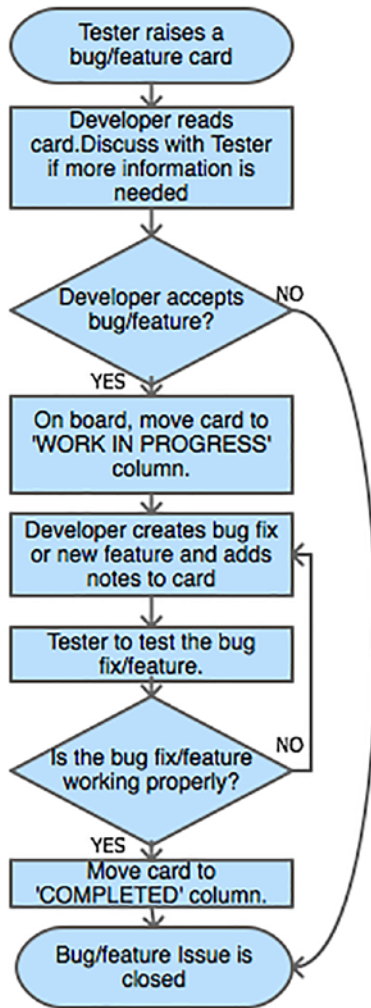

Figure 6-2. Bugfix/feature workflow
- Then the developer needs to work on fixing the bug or adding the feature. Before moving the card to the COMPLETED column, it must be tested by the tester. If the tester is happy, then the card is completed, and the developer can grab another card to work with. The whole process is shown in Figure 6-2.